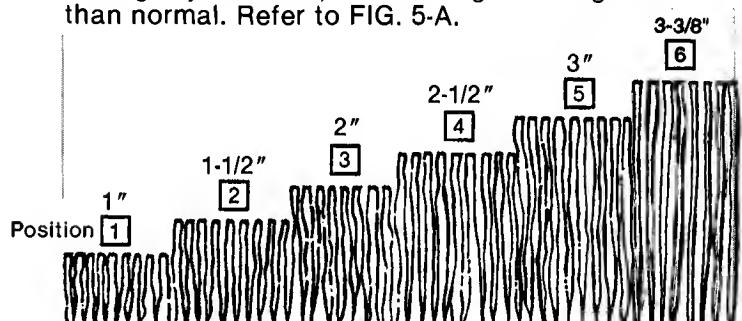

FIG. 5-A CUTTING HEIGHT SETTINGS
•**CHECK** cutting height and adjust as needed, to suit the prevailing grass conditions. Refer to FIG. 5.
NOTE: The highest cutting position is attained with the four latches set in notch 6. The lowest cutting position is with latches set in notch 1. Refer to FIG. 5.
During dry seasons, allow the grass to grow taller than normal. Refer to FIG. 5-A.